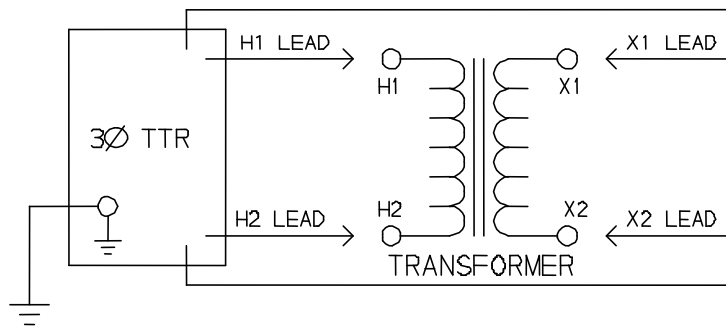
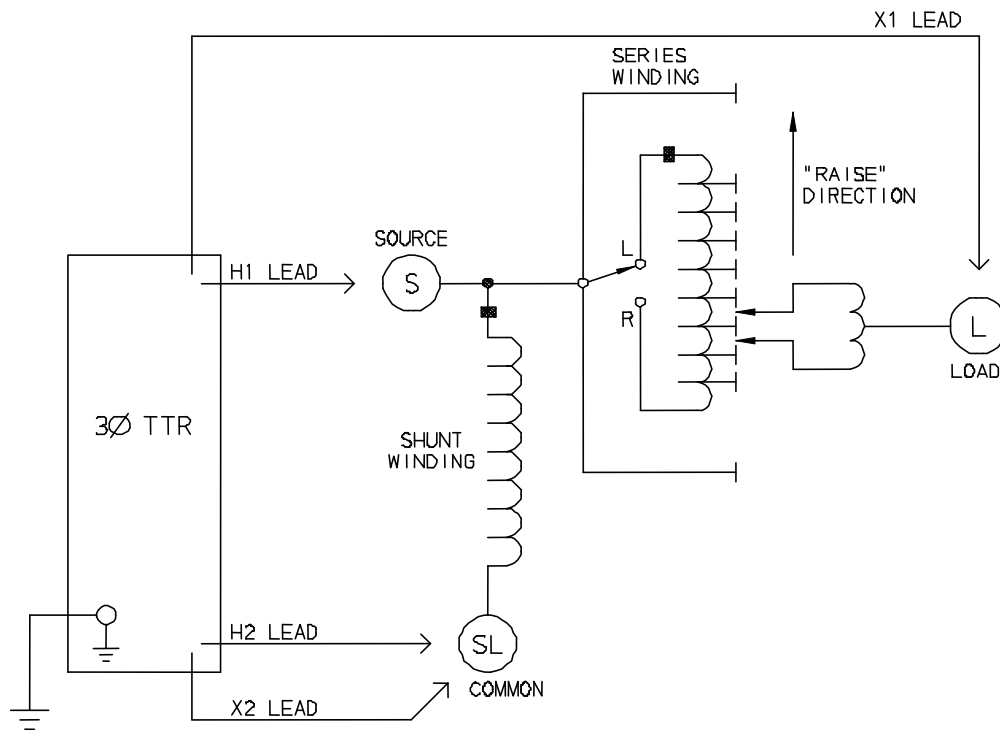

Figure 4-1. Setup for Testing Single-Phase Transformer
Figure 4-3. Setup for Testing Single-Phase, Type A (Straight Design) Step Voltage Regulator
3. Connect the heavy-duty clamps marked H1 and H2 of the test lead to the corresponding (high-voltage winding) terminals of the transformer under test. Figures 4-1 and 4-2 show test setups for single-phase transformers. Figures 4-3 and 4-4 show test setups for regulators.
4. Connect the heavy-duty clamps marked X1 and X2 of the test lead to the corresponding (low-voltage winding) terminals of the transformer under test. Figures 4-1 and 4-2 show test setups for single-phase transformers. Figures 4-3 and 4-4 show test setups for regulators.